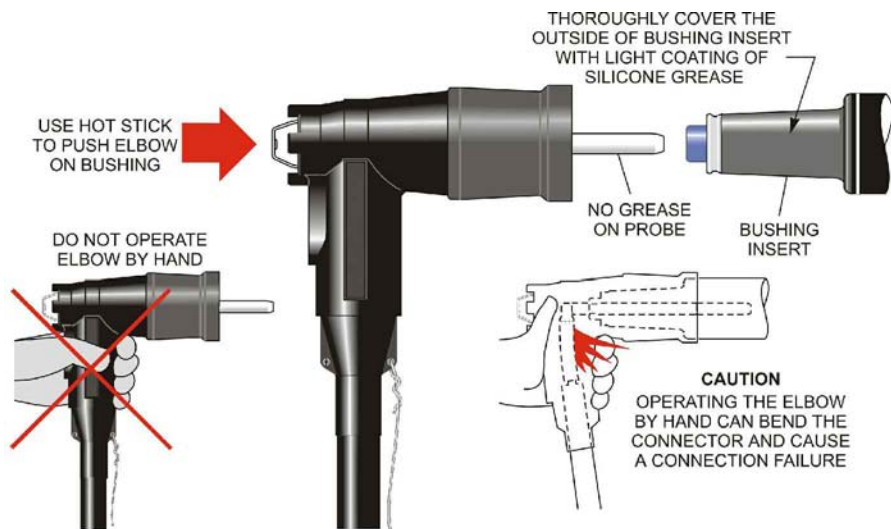

FIGURE 8
STEP 22: REMOVE THE PROTECTIVE COVER FROM THE BUSHING INSERT AND THOROUGHLY COVER THE ENTIRE SURFACE OF THE BUSHING INSERT INTERFACE WITH A LIGHT COATING OF SILICONE GREASE (SEE TABLE 2). SEE FIGURE 8.